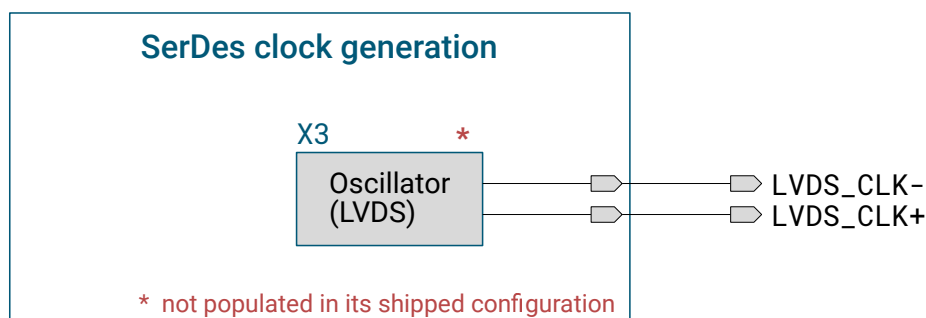
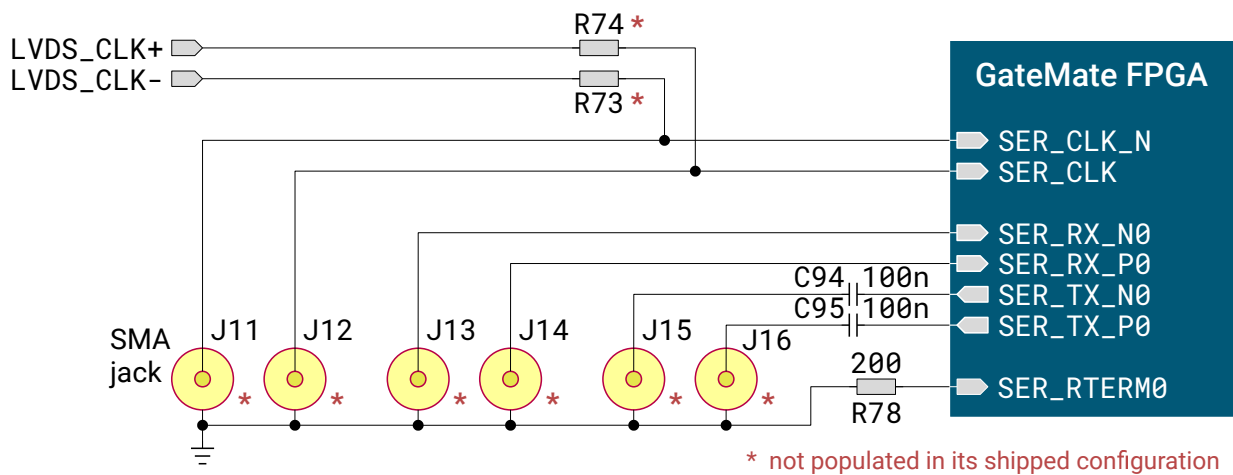

Figure 3.12: Optional SerDes clock (LVDS clock oscillator)
Figure 3.17: Optional SerDes interface
Finally, a low-voltage differential signaling (LVDS) clock oscillator can be populated to generate a Serializer / Deserializer (SerDes) input clock as shown in Figure 3.12. Please note, that also series resistors R73 and R74 have to be populated (see Figure 3.17 on page 36).
The evaluation board is prepared to offer a SerDes interface. Figure 3.17 shows, that the SMA jacks J13 .. J16 must be populated from the user to get access to the CCGM1A1 SerDes interface.
2. An on-board LVDS oscillator and the series resistors R73 and R74 are populated (see also Figure 3.12 on page 30).